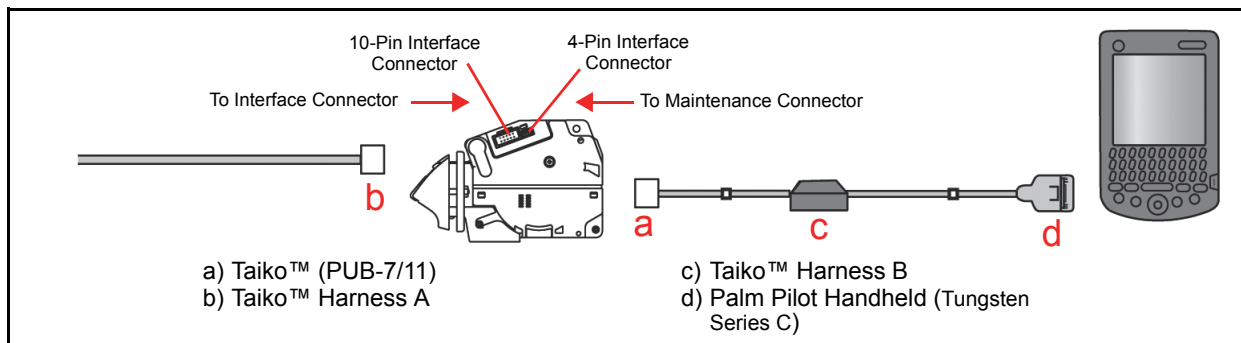
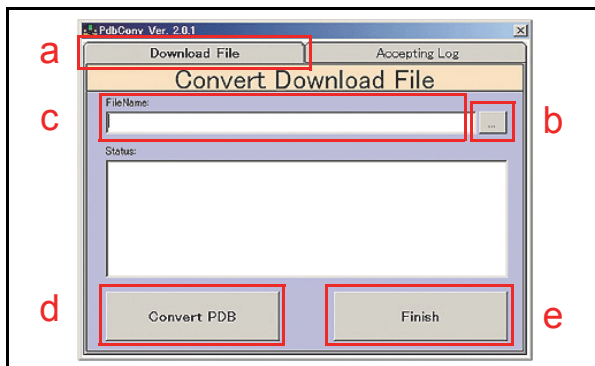

Figure 6-2 Required PUB-7/11 Palm Pilot Download Workbench Tool
Figure 6-6 Taiko Palm Conversion Screen
- a) Double Mouse-click on the PdbConv.exe Icon to start the ‘PdbConvEN’ Program. The Figure 6-6 PdbConv Ver. 2.0.1 Screen will appear.
- b) Mouse-click on the Download File Tab (See Figure 6-6 a) to select the conversion option required for your particular system requirements.
- c) Mouse-click on the appropriate Screen Button to select the file you want converted. Confirm that the File name listed in the download Filename: Field is correct (See Figure 6-6 c), and Mouse-click on the “...” Screen Button (See Figure 6-6 b) to Select the file you want to convert. The file name will be similar to “p11_10621a.usa”.
- d) Mouse-click on the Convert PDB Screen Button (See Figure 6-6 d) to begin the conversion process.
- f) Click the Finish Screen Button (See Figure 6-6 e) to close the ‘PdbConv.exe’ application.
**NOTE:** The following two (2) files will need to be transferred into the Palm Pilot® memory first.
- a) Refer to Figure 6-2 on page 6-1 to properly connect the Palm Pilot® to the Taiko™ Unit.